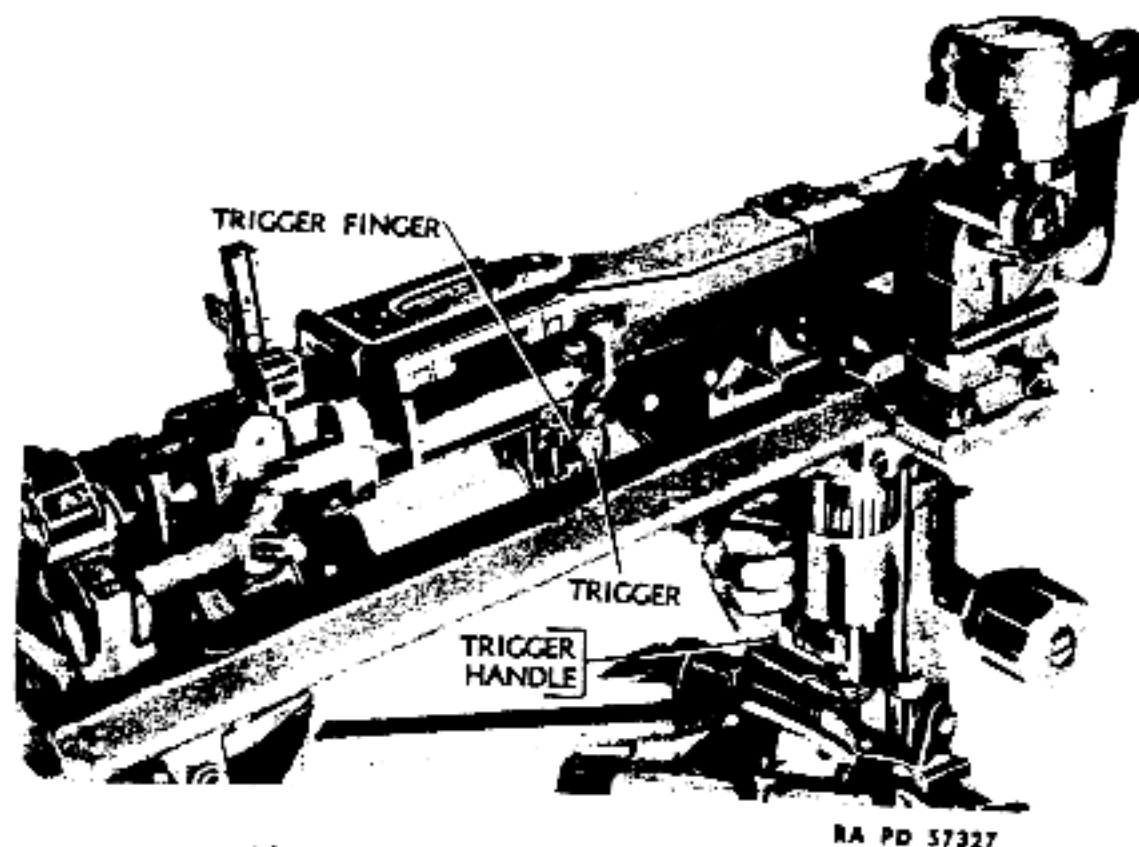

Figure 33 - Firing of Machine Gun
(2) **SINGLE FIRE.** For single fire, push up the trigger finger on the mount (fig. 32). Then pull the trigger handle on the mount (fig. 33) and release it. The handle must be pulled for each shot to be fired. During lulls in firing, set the safety at **SAFE** (move it to rear to uncover letter "S" (fig. 31)).